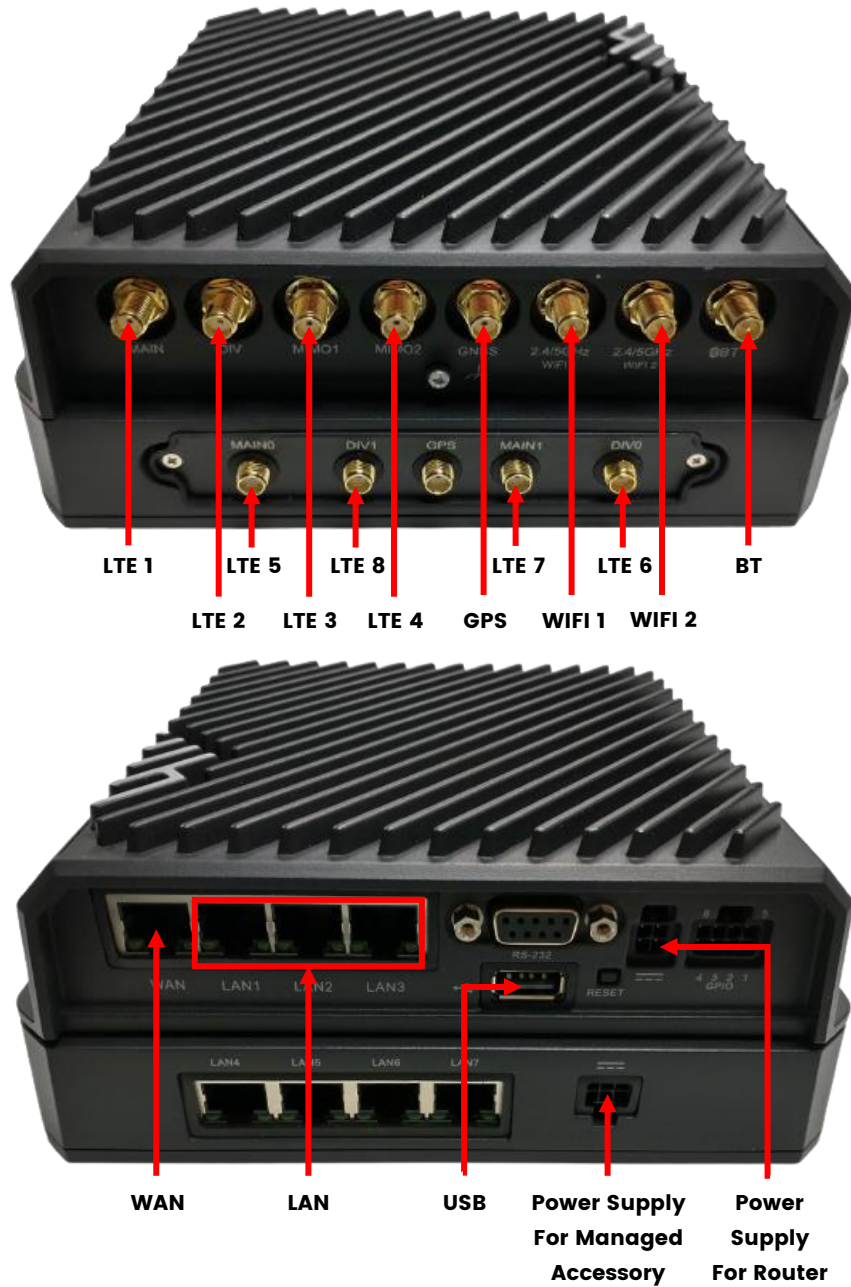

Figure 14: Cradlepoint R1900 Connections
- B. For R1900 with the managed accessory, connect the router power supply to the power supply port on the managed accessory, shown in Figure 14.